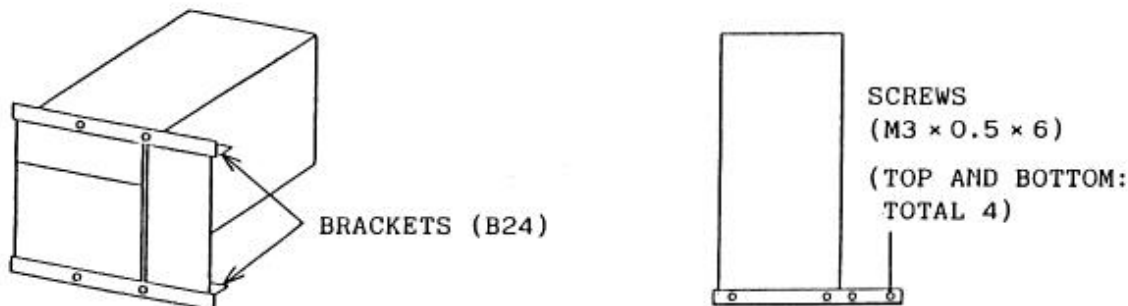

Figure 5.1.2
- b. When mounting fewer than 3 Loads, blank panels, BP5, may be fitted to fill any voids. The assembly can then be installed in the rack mount frame. See Figures 5.1.2 and 5.1.3.